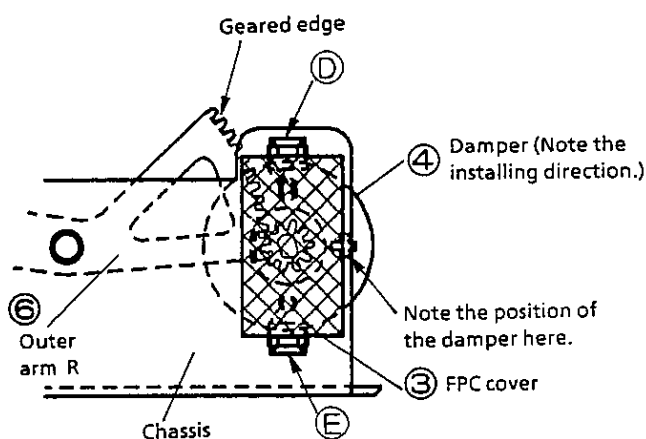

Figure 7-5-1(d).
2. Be sure to attach the FPC cover, as shown in Fig. 7-5-1(d), in such position that the FPC cover is located just between the claws of the damper and also that it does not jut out of the edge of the chassis.